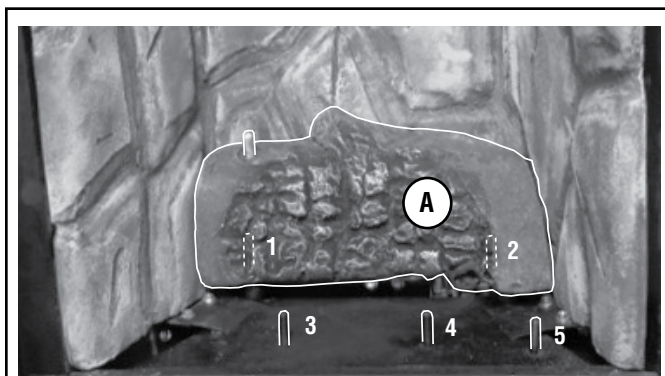

Figure 44 - Install Rear Log (A)
1. **Place the rear log (A) as shown in Figure 44.** Position the 2 holes on the bottom of the log over the corresponding locating pins (#1 & #2) and against the log support bracket. See **Figures 43 and 44** for pin and rear bracket locations.